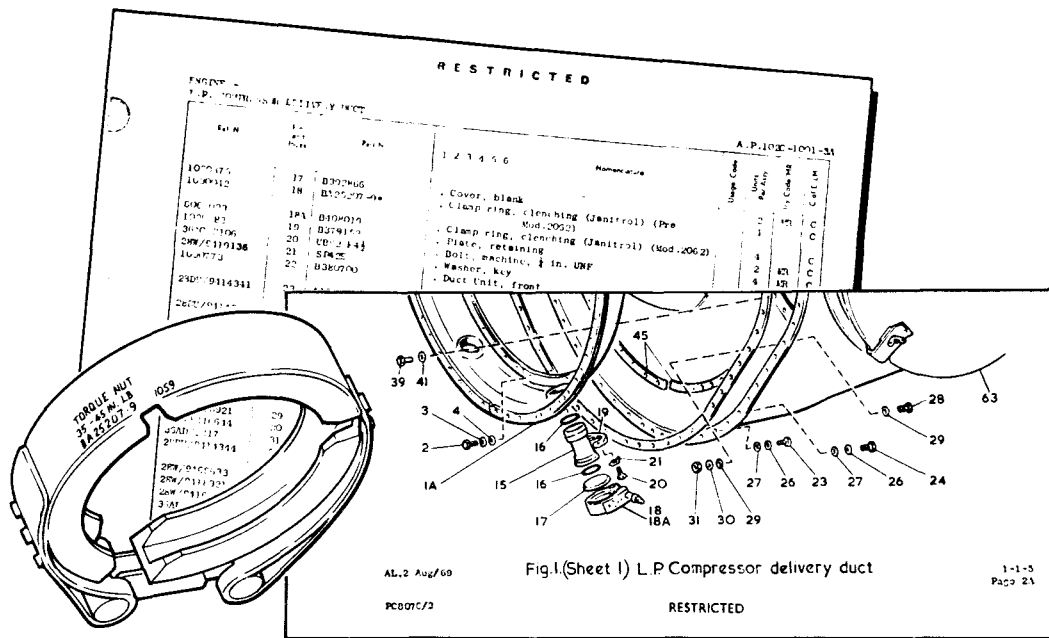

Fig 23.5 Part of Topic 3 of an AP
15. **Contents of AP1086.** As its title indicates, AP1086 only lists items of 'General' RAF equipment and in fact contains only about one-third of the total number of items used in the RAF. Equipment peculiar to an aircraft (or radio set *etc*) is not included in AP1086. Details of such equipment can be found in the Topic 3 of the appropriate technical Air Publication (Fig 23.5). To assist in identification, many items are marked *by the manufacturer* with the appropriate RAF or NATO stock number. Identification details of items which are too small to mark are labelled on the packages in which they are supplied.